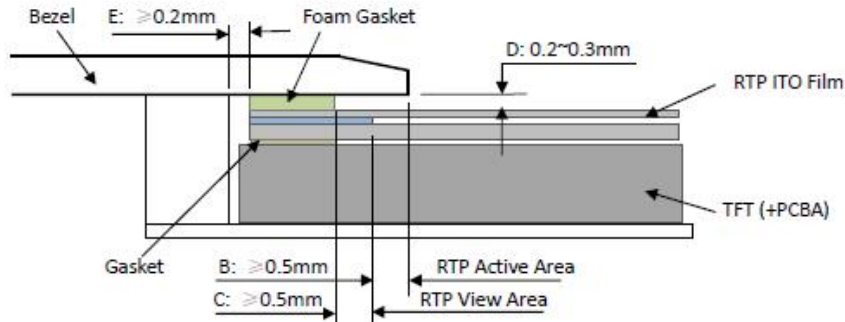

Figure 4
- It should bezel touching the RTP Active Area (A.A.) to prevent abnormal touch.It should left gab $D=0.2\sim 0.3\text{mm}$ in between. (Figure 4)
- Outer bezel design should take care about the area outside the A.A. Those areas contain circuit wires which is having different thickness. Touching those areas could de-form the ITO film. As a result bezel the ITO film be damaged and shorten its lifetime. It is suggested to protect those areas with gasket (between the bezel and RTP).The suggested figures are $B\geq 0.50\text{mm}$; $C\geq 0.50\text{mm}$. (Figure 4)
- 为避免面框直接压在动作区 (A. A.) 上造成误动作，面框与电阻触摸屏 (RTP) 之间应留有一定的空隙 $D=0.2\sim 0.3\text{mm}$ 之间。(附图 4)
- 设计面框时，要注意用面框保护触摸屏四周的非保证操作区域，因为布线区域在此处形成一台阶，在此区域附近操作时 ITO Film 变形较大，容易导致 ITO 损坏而降低寿命。为保护 RTP 和避免误操作，在 RTP 与面框之间垫缓冲物 (Gasket)，我们建议设计面框应覆盖动作区的边缘，面框边缘到 V. A. 区的距离 $B\geq 0.50\text{mm}$ ；垫圈内边缘到 V. A. 区的距离 $C\geq 0.50\text{mm}$ 。(附图 4)
RTP. (Figure 4)
侧与 RTP 外侧的间距 $E \geq 0.2\text{mm}$. (附图 4)